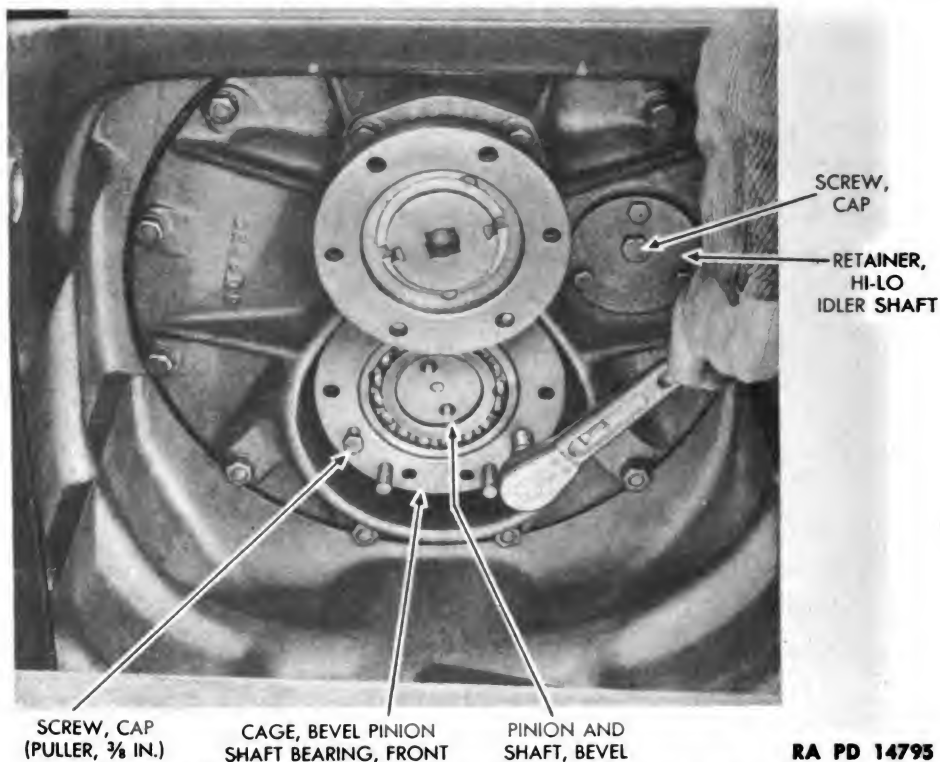

Figure 35 — Front Bevel Pinion Shaft Bearing Cage Removal
- (11) REMOVE FRONT BEVEL PINION SHAFT BEARING CAGE (fig. 35).
- (12) DISCONNECT IDLER SHAFT RETAINER FROM IDLER SHAFT (fig. 35).